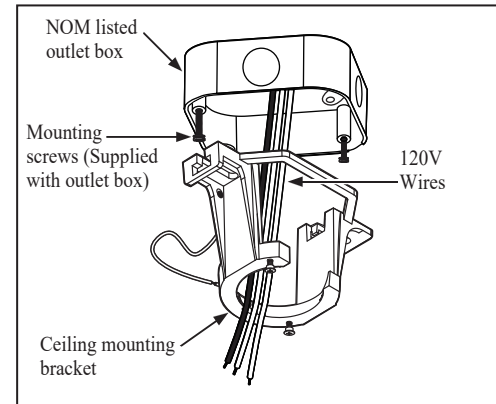

Figure 9
1. Pass the 120-volt supply wires through the center hole in the ceiling mounting bracket as shown in Figure 9.
2. Attach the mounting bracket on the outlet box by sliding the mounting bracket over the screws provided with the outlet box. (Figure 9)
3. Securely tighten the two mounting screws. (Figure 9)